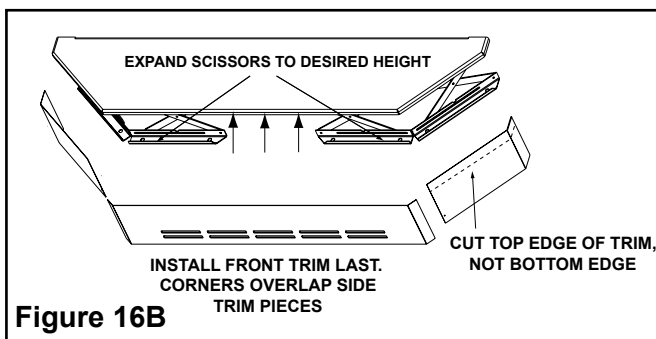

Figure 16B
2. Expand scissors to desired height. Tighten screws to hold in place using Phillips Head screwdriver. **Figure 16B.**
3. Measure front and side trims to required height to cover scissors and mark pieces for cutting. Cut excess material from **top** of trim's edge, not bottom. This edge will be sharp; wear gloves to prevent injury to your hands. **Figure 16B.**